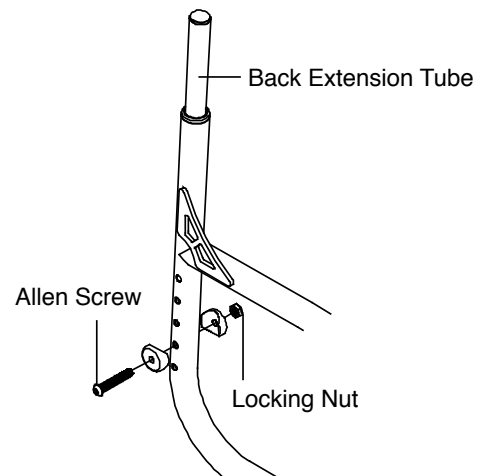
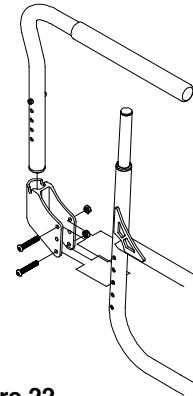

Figure 21
Figure 22
3. Remove the two Allen Screws (one on each side of the chair) that secure the back extension tubes inside the frame. See Figure 21. If your chair is equipped with swing-away armrests or stroller handles, the receiver will be attached to the frame with two screws, one of which will also secure the backrest extension on either side of the frame. See Figure 22. Carefully note the order in which the various washers and nuts (and any other parts, such as armrest receivers or stroller handle receivers) were originally installed on the chair as you will need to reinstall all of the parts in the exact same order in Step 5 below.
- Adjust the backrest extension tubes to the desired height. See Figures 21 or 22.